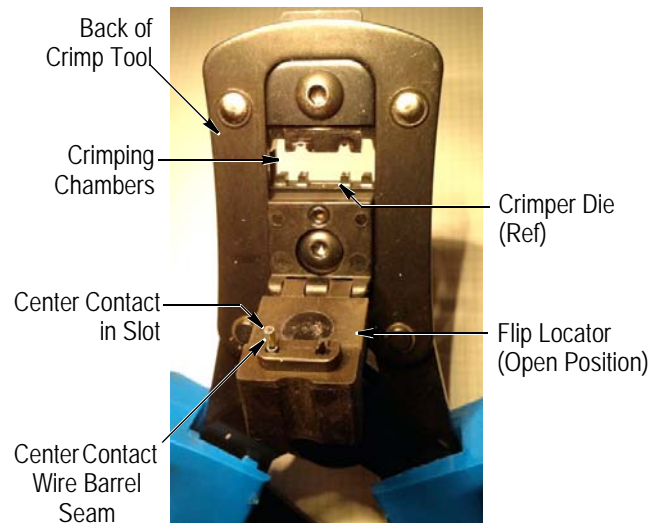

Figure 5
2. Pull the flip locator down and toward you to the open position. Insert the center contact in the slot that corresponds to the appropriate crimping chamber (crimping chambers are marked with the crimp height dimension on the front of the tool). Make sure that the seam of the wire barrel is facing the top of the flip locator. Refer to Figure 5.